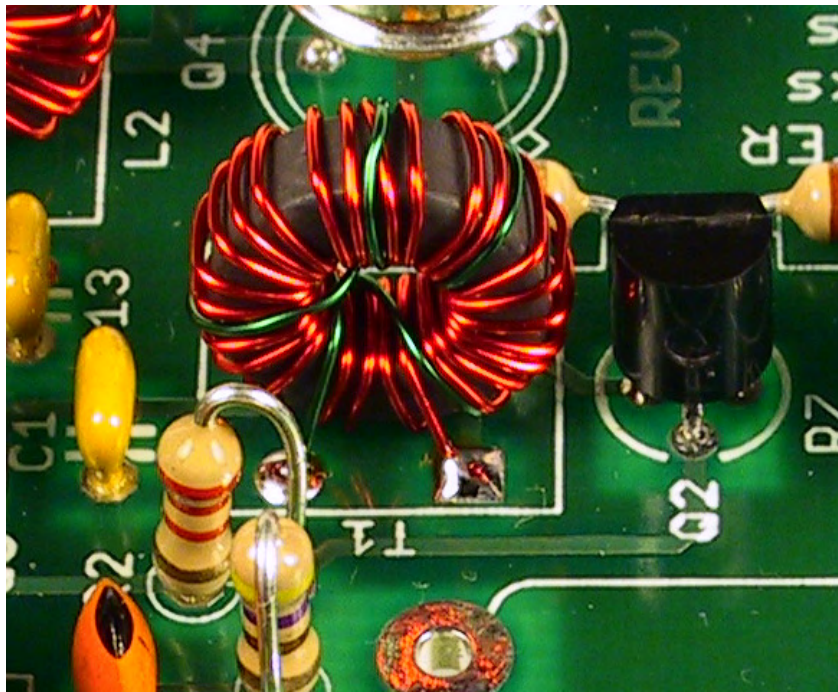

Figure 9 T1 Installation
- Refer to Figure 9 and insert the Red leads into the pads closest to Q2.